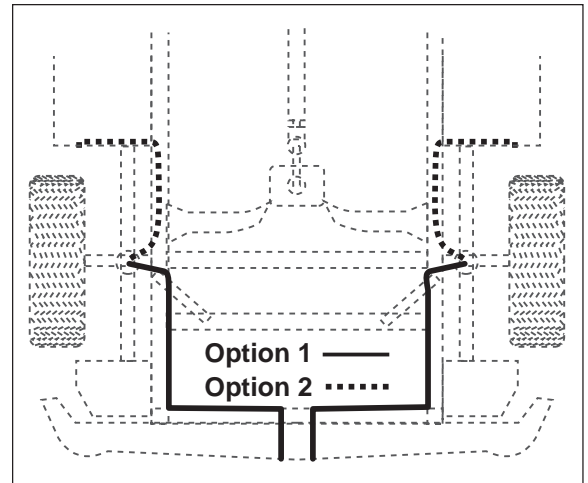

Figure 3
12. Select location on the vehicle for the air inflation valves (Figure 3). The location can be on the bumper or on the body of the vehicle, but be sure that it is protected so that the valve will not be damaged and will still be accessible for the air chuck.